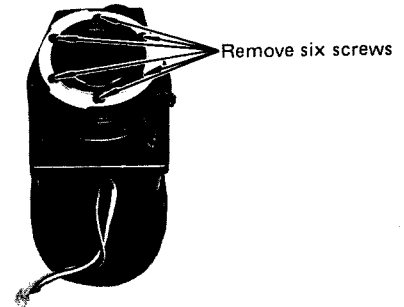

Fig. 4-4
- o Remove six screws which hold the mounting angle and remove the mounting angle. (Fig. 4-4)